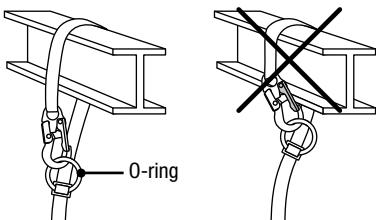

Fig. 5
3.7.1 Degil tie-back lanyards, when identified accordingly, are made with a self-locking snap hook which attaches back to an O-ring to allow greater adjustment (*Figure 5*). The O-ring must be positioned below the anchor point to prevent the gate of the self-locking snap hook from being cross-loaded on the anchor point.
Do not allow the connector to come into contact with the anchorage point, beam, tube, etc. (*Figure 5*).
- a connector connected back on its own, unless manufactured as a tie-back lanyard (*Figure 5, page E9*);